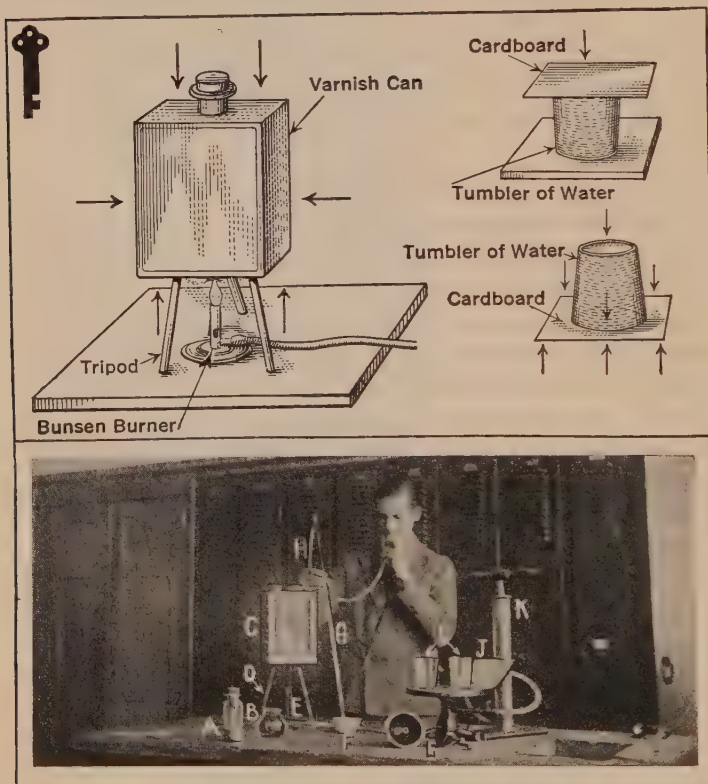

FIGURE 26. — (KEY) DEMONSTRATION 4.
A. Materials: A two-quart empty varnish can; a tight-fitting rubber stopper; iron tripod; Bunsen burner; and a pint of water (Fig. 26).
B. Materials: Glass tumbler of water and piece of smooth cardboard 6 inches square (Fig. 26).
C. Materials: A small bore glass tube about 30 inches long; a one-foot piece of rubber tubing to fit the glass tube; and mercury in a shallow dish (Fig. 26).
D. Materials: Palm glass; Magdeburg hemispheres; and exhaust pump (Fig. 26).